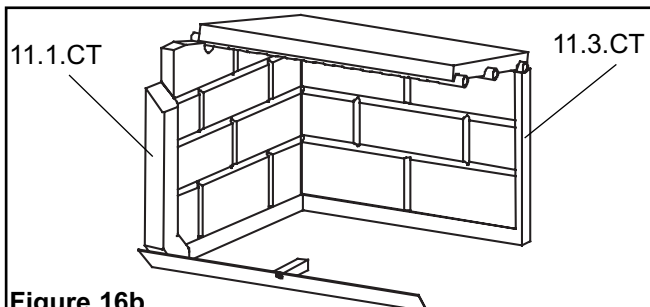

Figure 16b
- 4. Insert the rear refractory brick in the firebox (11.3.T), then the left side refractory brick (11.1.T). See Figure 16b for the proper orientation.